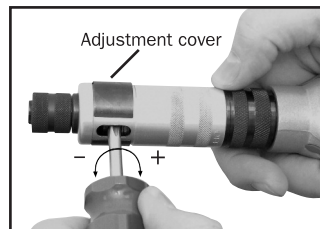

Fig. 7
4. After altering the torque setting, the adjustment cover should be rotated back to its locked position (See fig. 7).